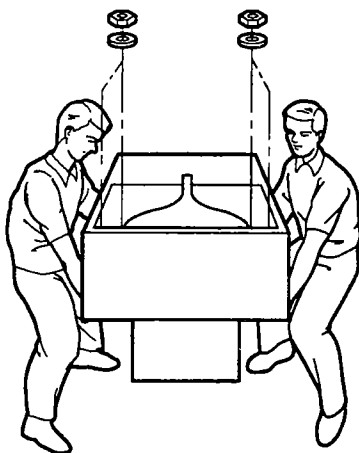

Fig. 7-1
6. Place a thick cushion or slab of foam rubber on the BASE and carefully lie the TV set on its face, taking care not to strike or scratch the face of the CRT. (Fig. 7-1)
7. Remove 4 CRT mounting Hexnuts and washers (Fig. 7-1)